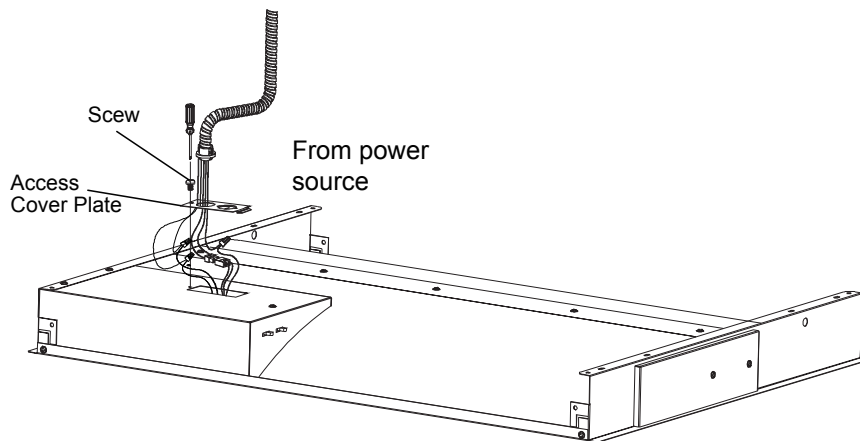

Figure 3
4. Remove access cover plate and remove the necessary knockout. Connect cable wires with appropriate relief strain and wire connectors (not provided). See Figure 3.
5. Reinstall the access cover plate with removed screws. Make sure ALL wires are tucked into the housing and not get pinched by the cover. See Figure 3.